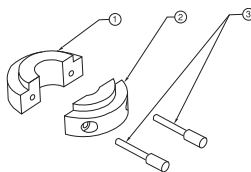

Figure 3
1. Mount the two sections of the IV clamp (items 1 and 2 in Figure 3) around the IV pole.
2. Secure the sections together using the knurled screws (item 3).